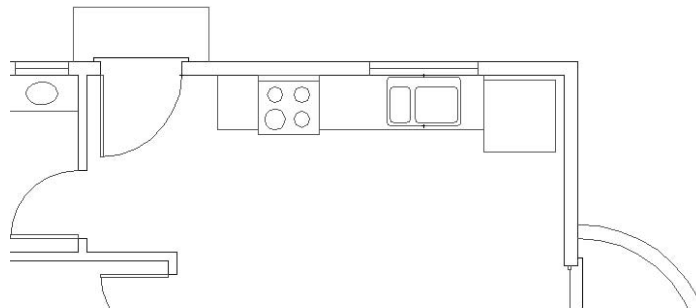

FIGURE 7.28: The inserted window behind the sink
8. Zoom Previous (see Figure 7.28).